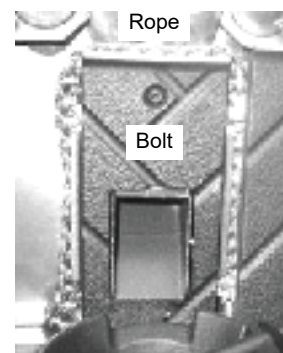

Figure 26.6
4. Add new center brick and taking care not to cross thread the bolt; reinstall brick (**Figure 26.6**).